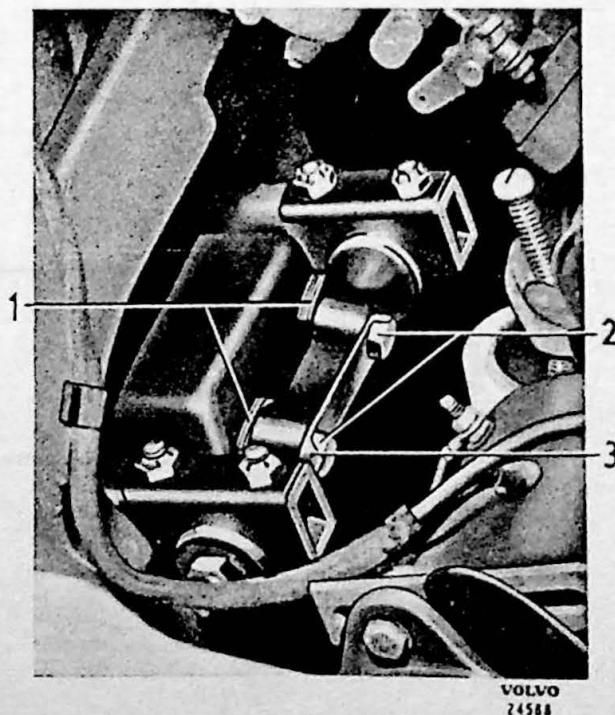
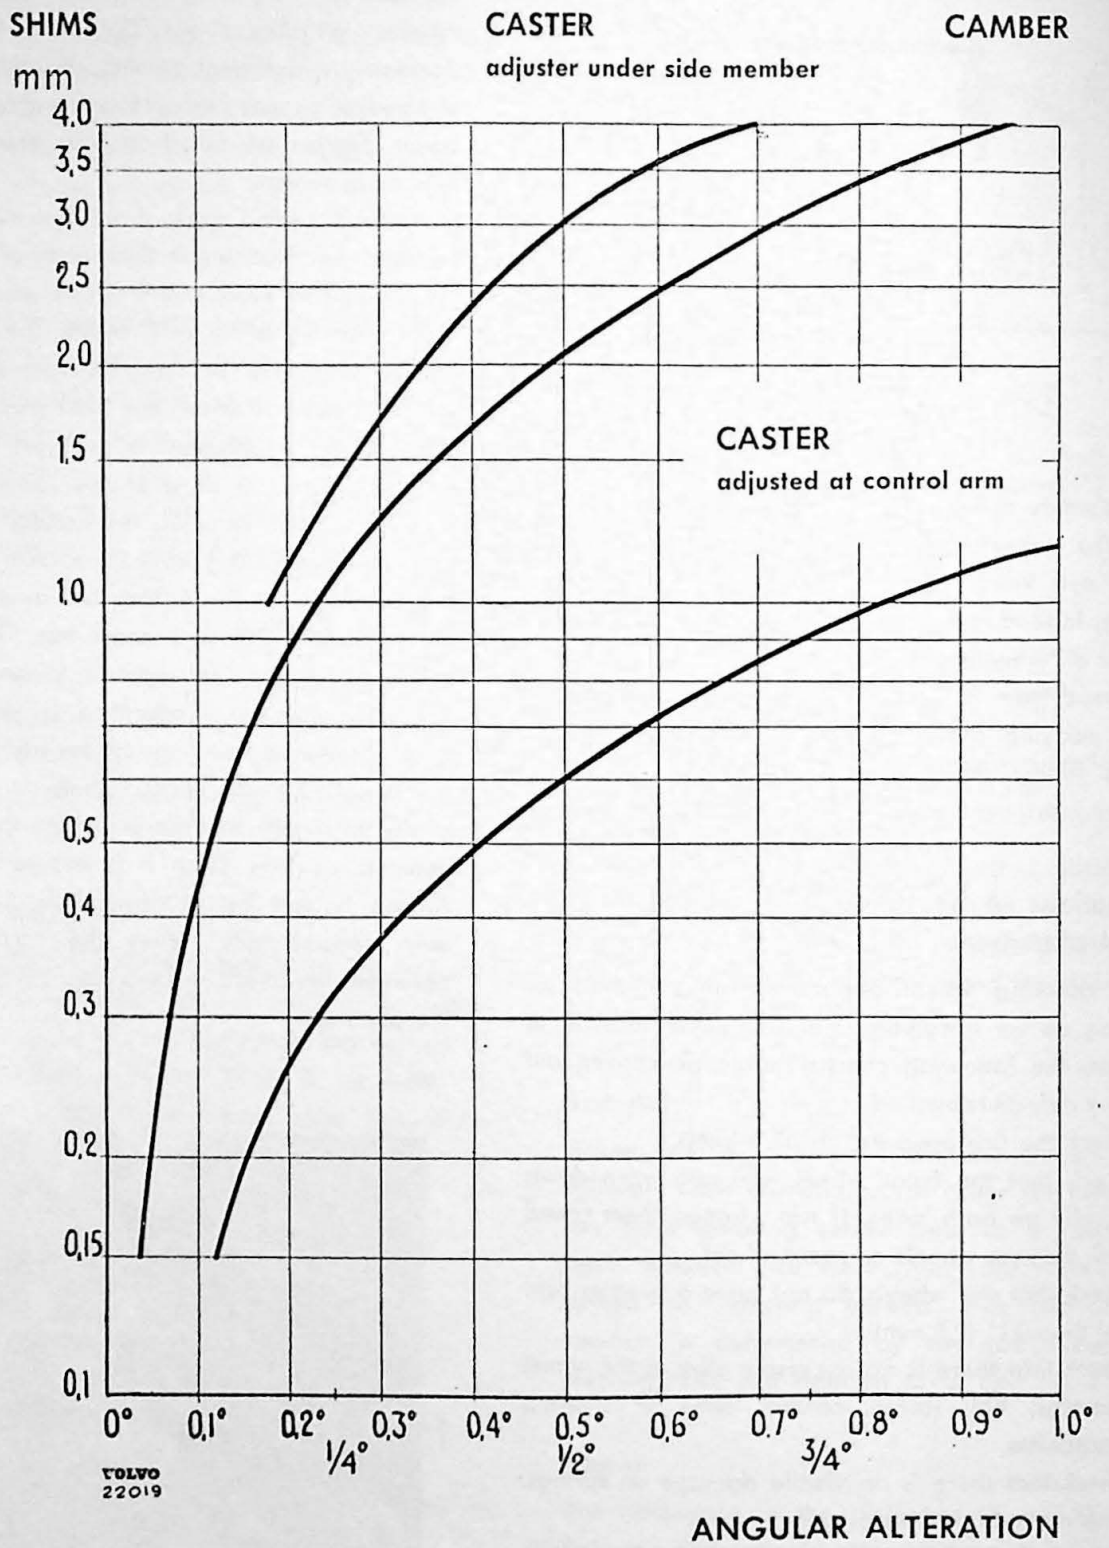

Fig. 6-36. Upper control arm attachment
Fig. 6-37. Diagram for camber and caster adjustments
Shims for adjusting caster (front axle member — side member) are available in thicknesses of 2 and 3 mm. The amount by which caster can be adjusted by these shims is shown in Fig. 6-37. NOTE. The same amount of alteration must be done on both sides in order to avoid extra strain on the front axle member.
When caster is different on the right and left-hand side, adjustment is done at the upper control arm shaft (Fig. 6-36). Bend up the locking plate (3) and slacken the attaching bolts (2) so that the shims (1) can be lifted up. These shims are available in thicknesses of 0.15, 0.05, 1, 3 and 6 mm. The amount by which these alter the caster is shown in Fig. 6-37. The same amount of alteration is obtained if one shim is removed from one of the attaching bolts or if it is added to the other. In both cases the camber is altered slightly and the procedure therefore partly depends on how much it is desired to alter this. Always tighten the attaching bolts before making new measurements. When the correct caster is obtained, the attaching bolts are locked with a locking plate (3).
The camber angle should be 0° to $+1/2^{\circ}$. The camber is adjusted by means of shims at the upper control arm shaft (Fig. 6-36). Bend up the locking plate (3) and slacken the attaching bolts (2) so that the shims (1) can be lifted up. By increasing the number of shims a more negative camber is obtained and by decreasing the shims a more positive camber is obtained. Shims are available in thicknesses of 0.15, 0.5, 1, 3 and 6 mm. The amount by which the shims alter the camber is shown in Fig. 6-37.